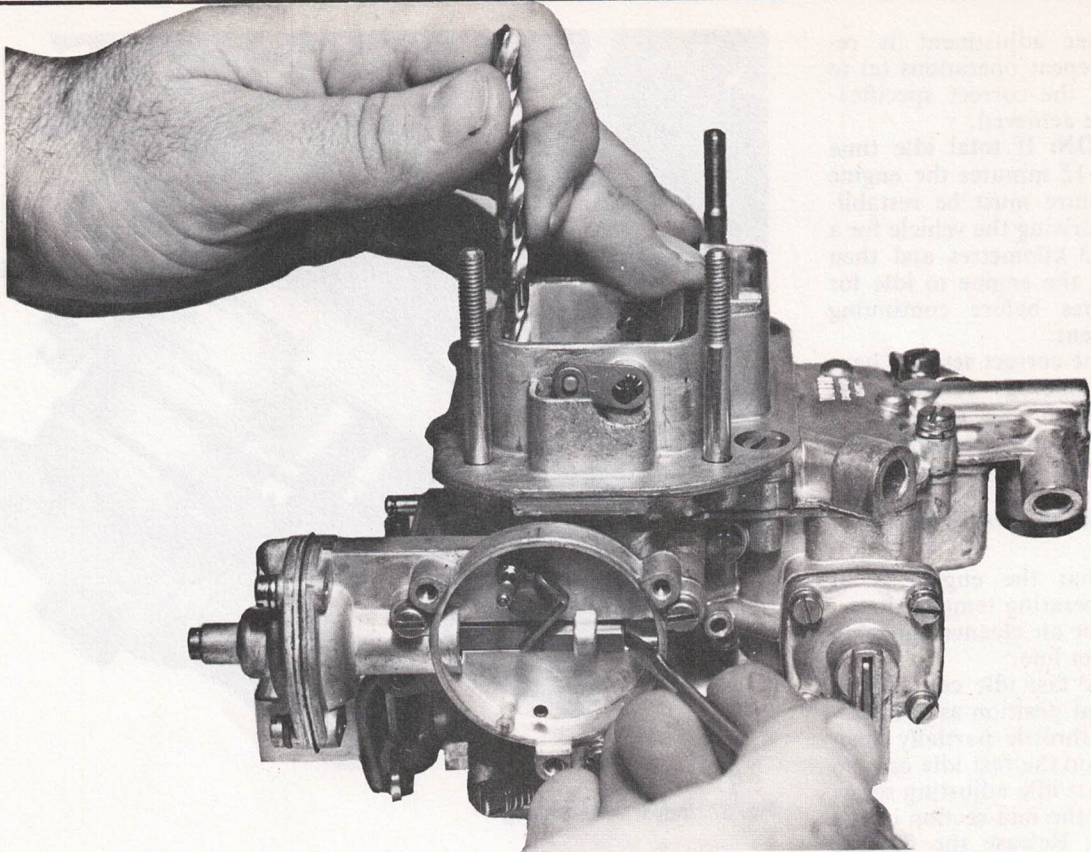

Fig. 55. Checking Choke Plate Pulldown Dimension
6. Check the pull-down dimension by applying finger pressure to the top edge of the choke plate to remove all slack from the choke linkage and inserting a 6.00 mm drill/gauge rod between the lower edge of the choke plate and the carburettor body. If the drill/gauge rod indicates unreasonable variation to the 6.0 mm dimension specification (Fig. 55) adjust as follows:—